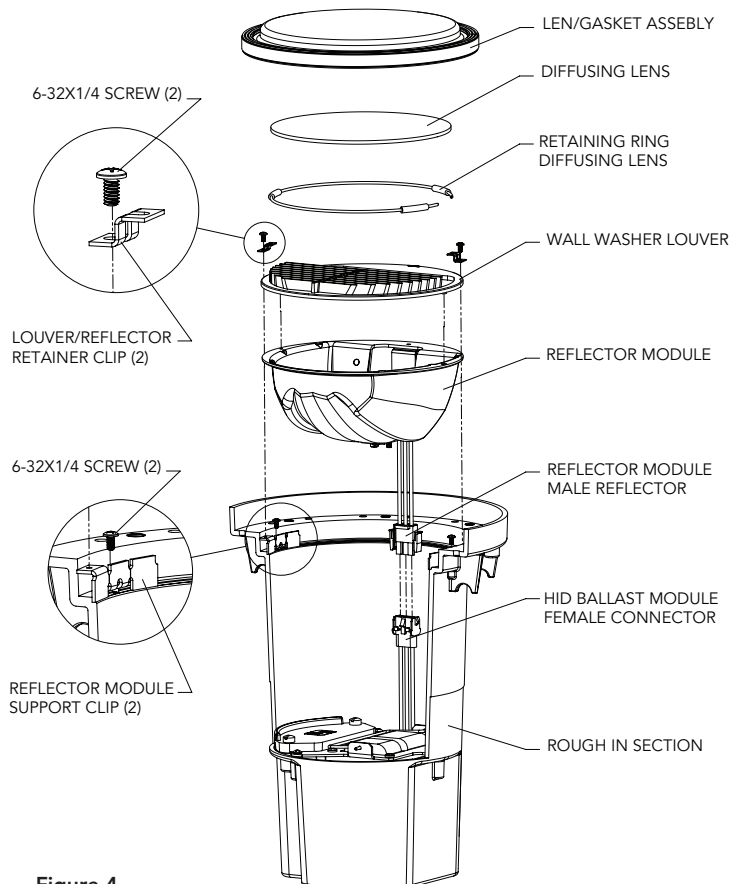

Figure 4
- Install the reflector module support clips (2) onto the rough-in section using the provided 6 - 32x1/4 screws (2) as shown in Fig. 4.
- Position the wall wash louver onto the reflector module making sure that the projections (2) on the underside of the louver align with the holes in the reflector module.
- Install the louver/reflector retaining clips (2) onto the reflector module support clips (2) using the provided 6 - 32x1/4 screws (2) as shown in Fig. 4.